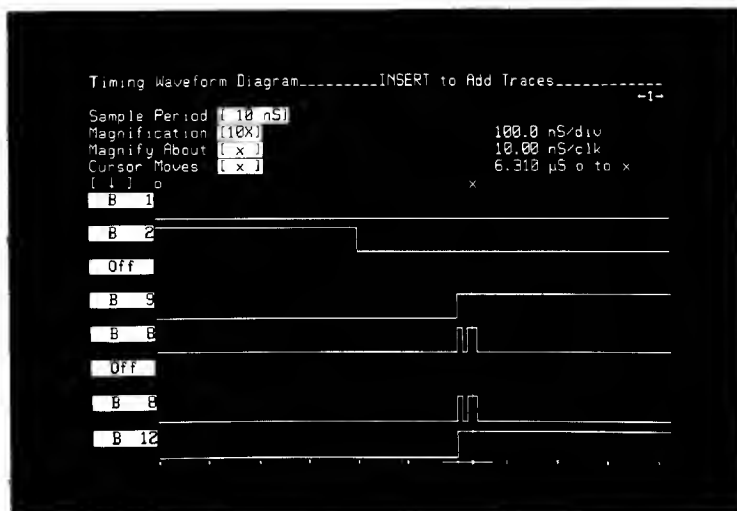

Figure 3-14. Selecting Waveform Positions On Display
4. Press the INSERT key several times. You can add channels to the display, up to a maximum of 16 channels in non-glitch mode and 8 in glitch mode. See figure 3-14.